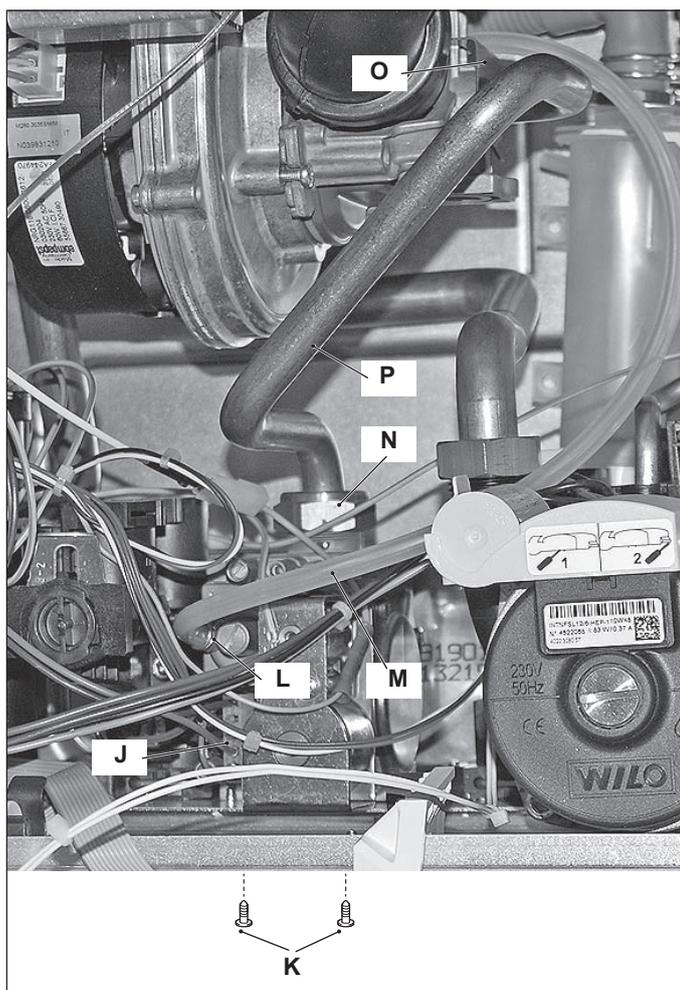

Figure 11.13
2 Disconnect the connector J (Figure 11.13).
- 4 Using pliers, remove the spring L and the rubber pipe M (Figure 11.13).